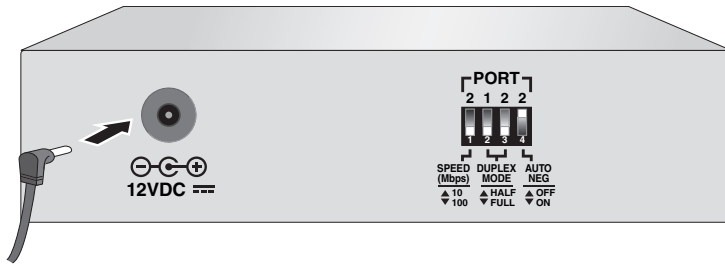

Figure 11. Connecting a 12VDC Powered Unit
1. Plug one end of the DC power cord to the power receptacle connector labelled 12VDC on the back panel of the converter, as shown in Figure 11.